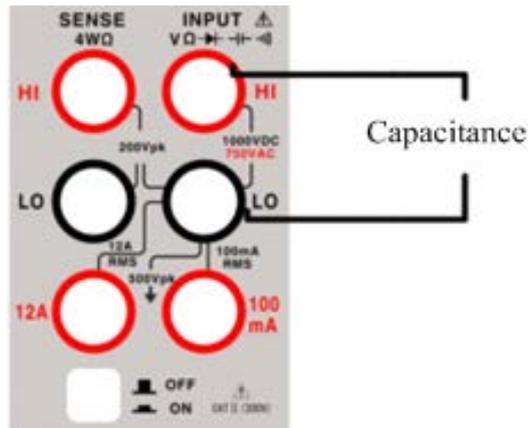

Figure 2.4.2 Capacitance measurement terminal connection
2. According to Figure 2.4.2, connect the red and black test leads respectively to the proper input terminals.